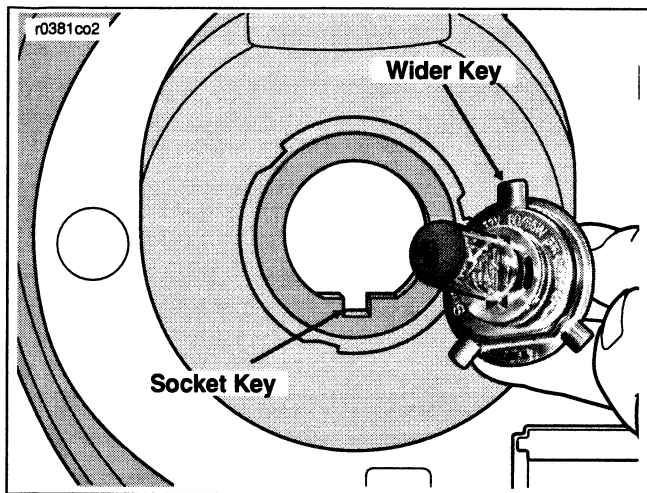

Figure 57. Lamp Housing
9. See Figure 57. Install keyed bulb socket into headlamp assembly.
10. Install retainer and turn clockwise (CW) to lock in place.